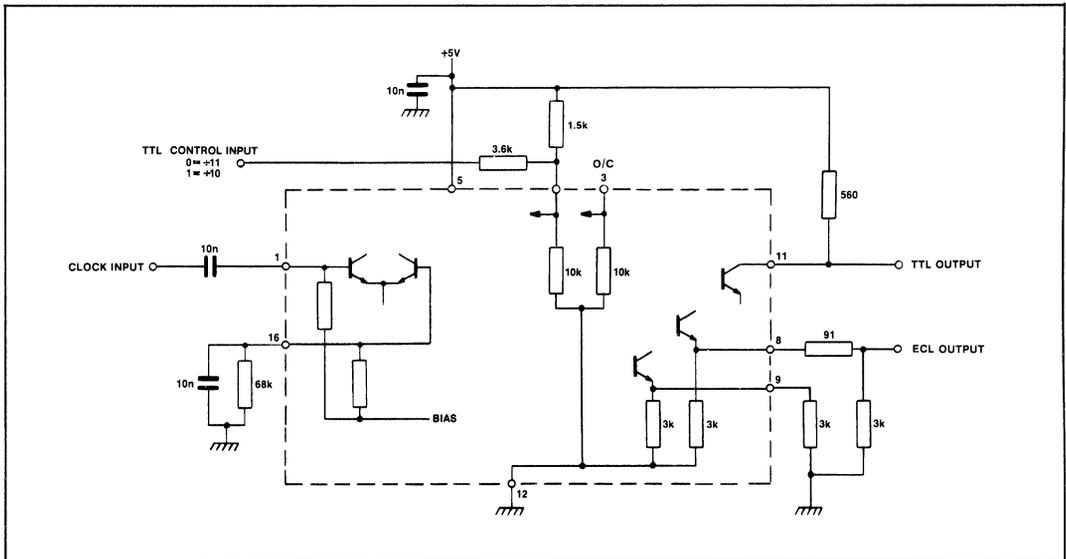

Fig.9 Typical applications circuit showing interfacing
4. The Q2 and Q4 outputs are compatible with ECL II but can be interfaced to ECL 10K as shown in Fig.9.